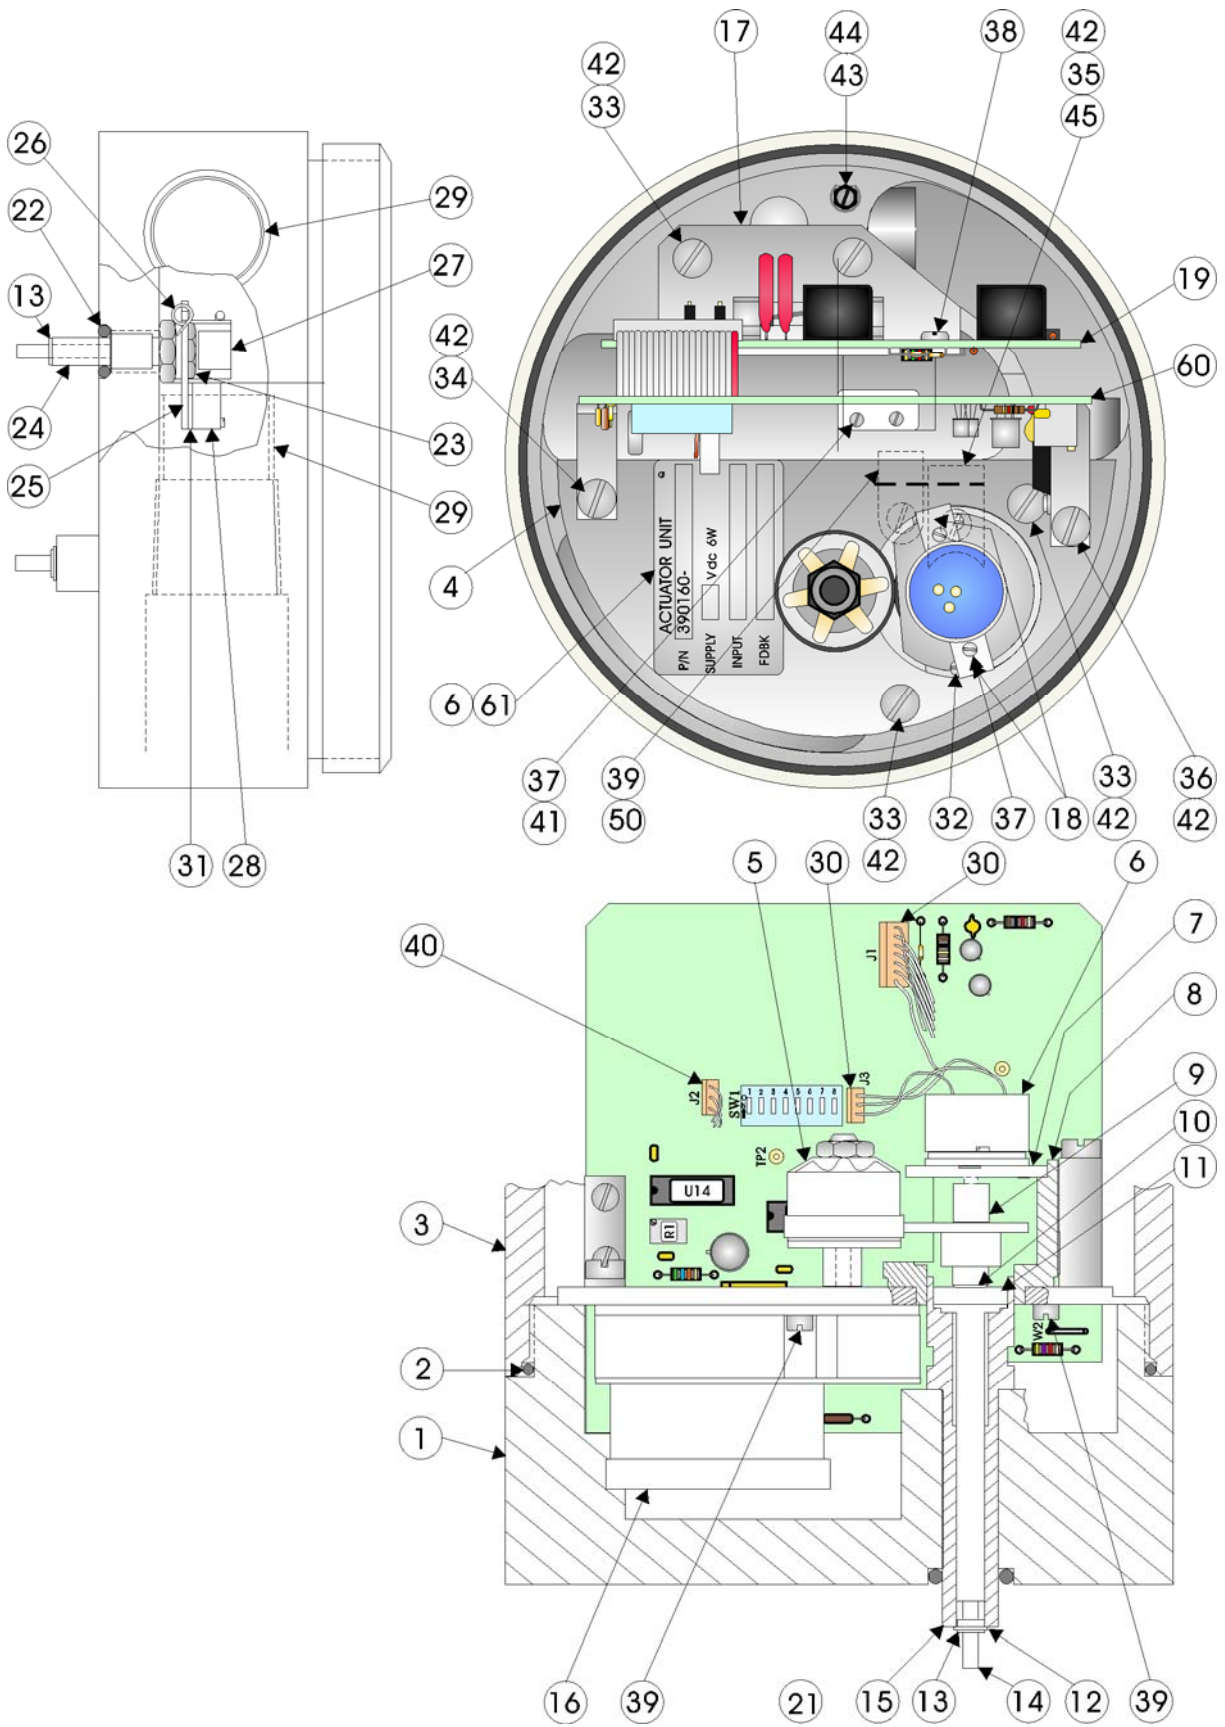

Figure 5-7 - Actuator Assembly
5.7 RSP ACTUATOR ASSEMBLIES (see Figure 5-7)